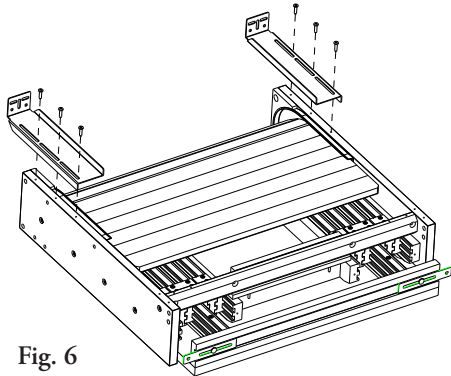

Fig. 6
2. Attach rear brackets with (6) M4 x 18 pan head wood screws to bottom frame in pre-drilled holes. Leave back brackets loose for adjustability. (see fig. 6)